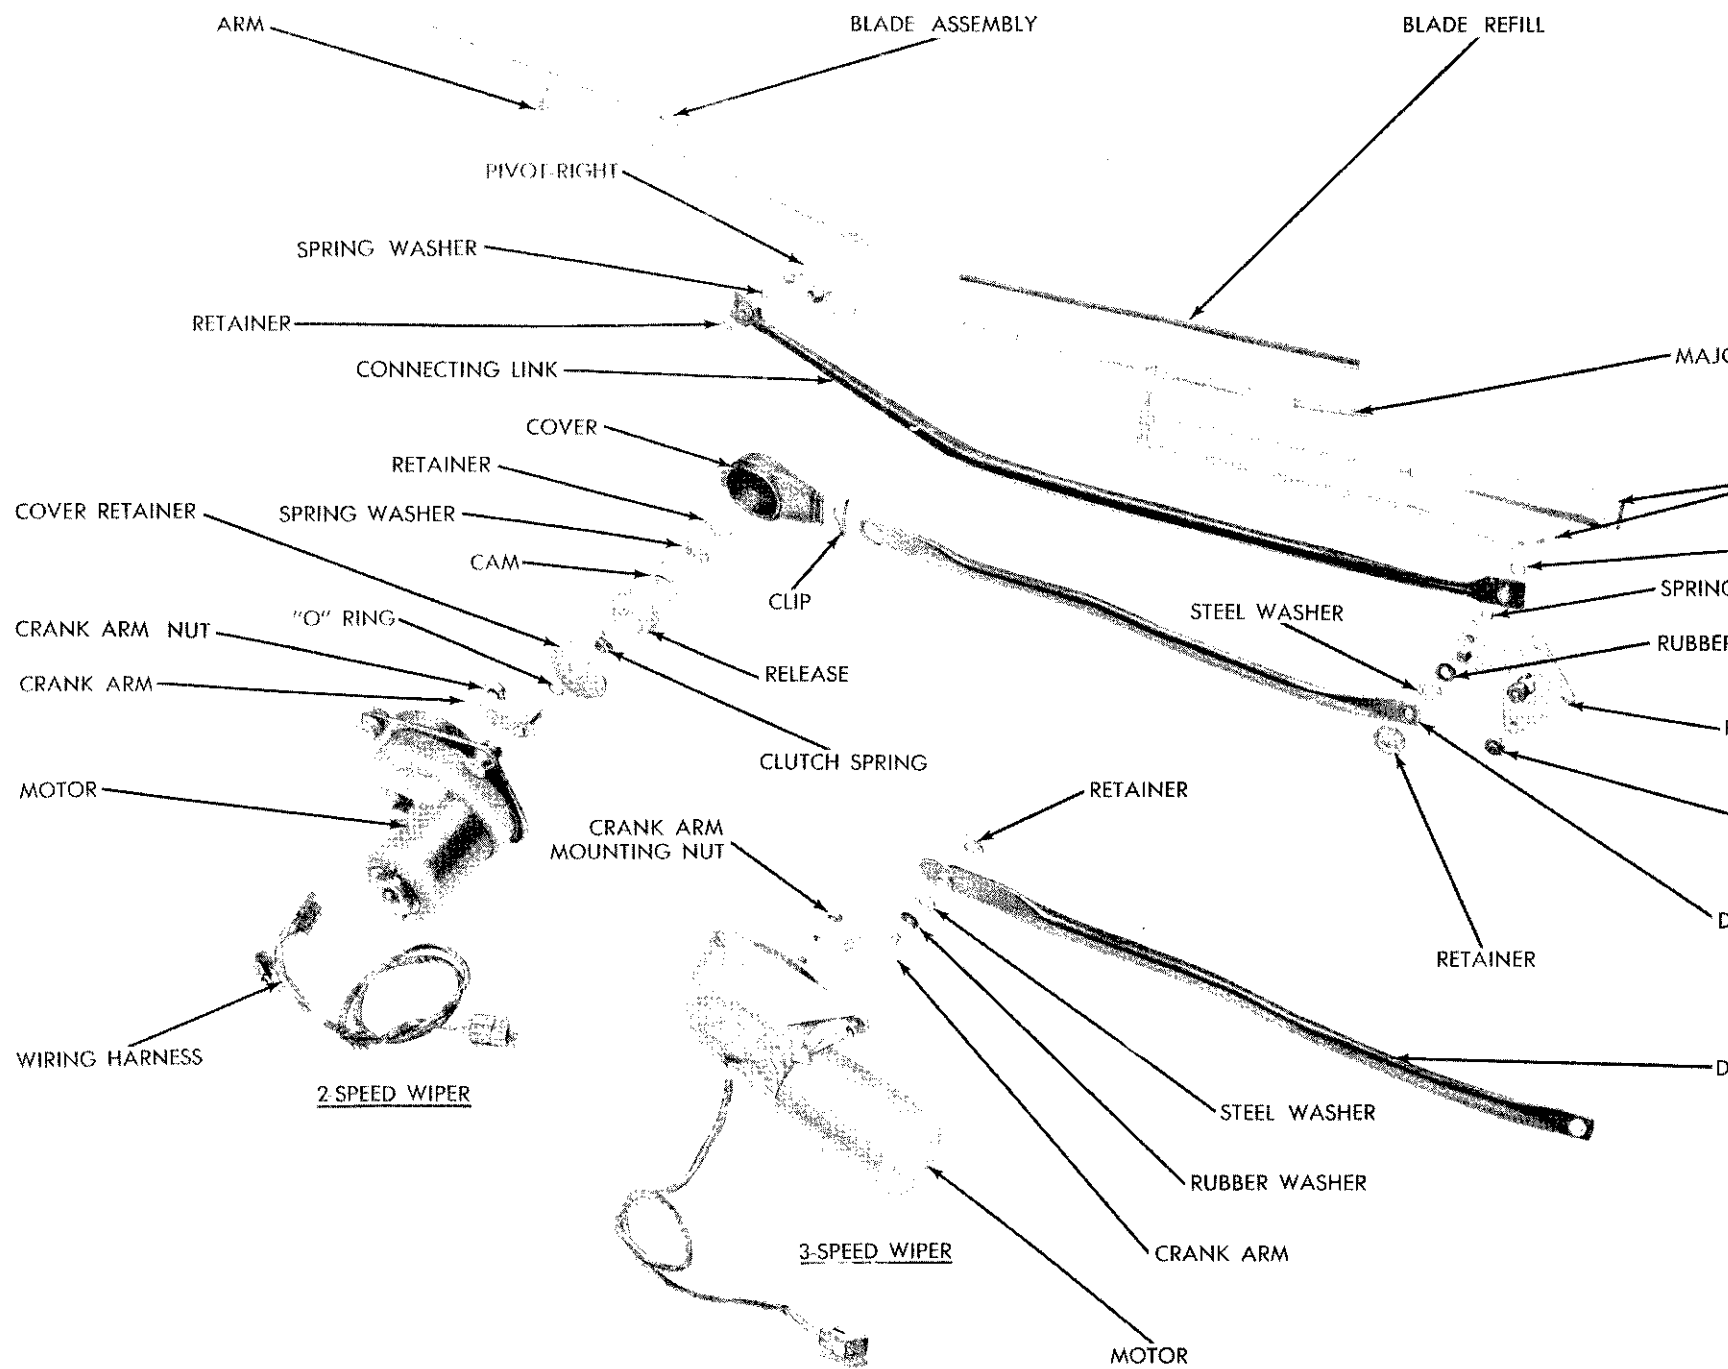

Fig. 4—Wiper System
(4) Remove links and pivots through cowl top opening. The linkage and pivots can be serviced on bench after removal from the vehicle. (Refer to Figure 4).